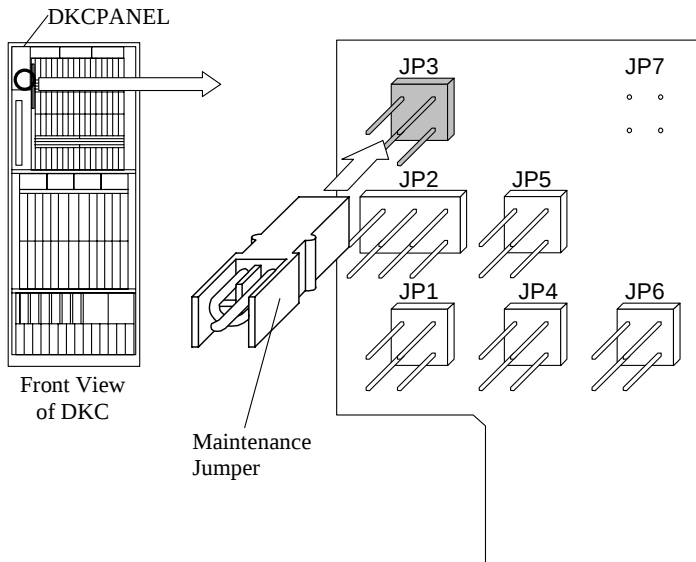
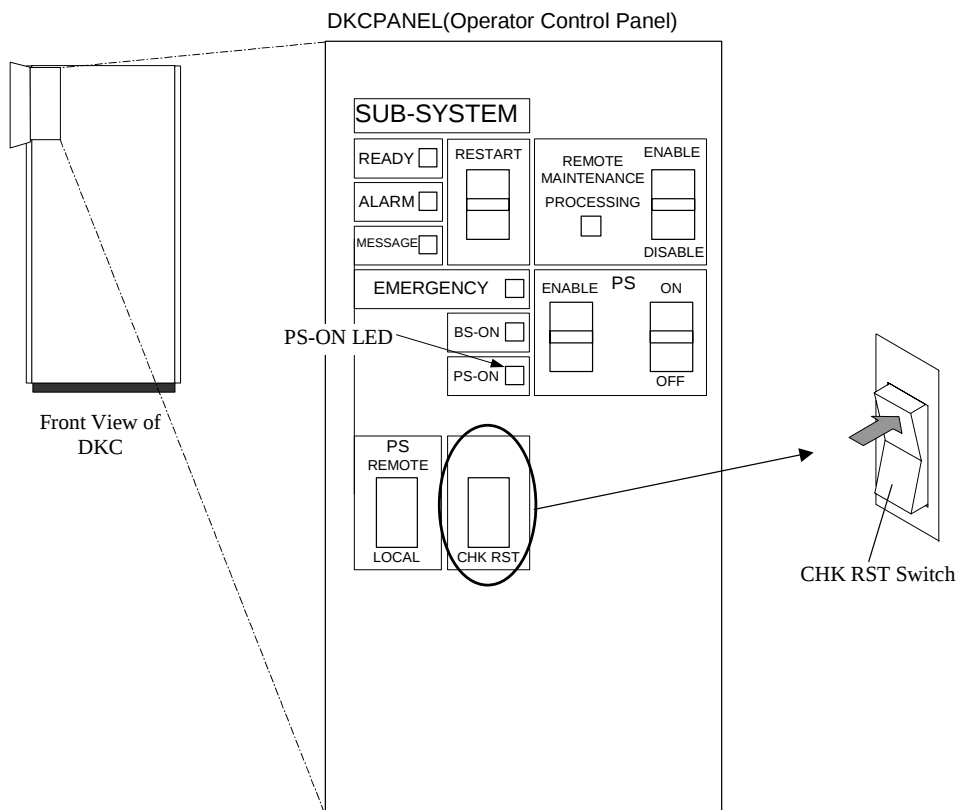

Fig.16.2-1 Insertion of Maintenance Jumper
Fig.16.2-2 Location of Switch and LED
- c. Remove the maintenance jumper after PS-ON LED is off. (Refer to Fig. 16.2-1 and Fig. 16.2-2.)